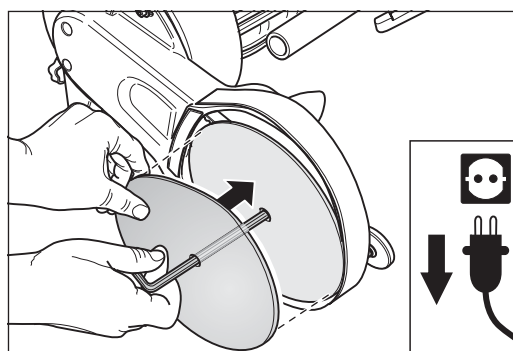

Fig. 48 To center the sanding disc, insert the Allen key into the hole of the sanding disc and then into the hexagon socket of the sandpaper tensioning screw.
- 5 Set the Velcro sanding disc in place by inserting the Allen key in the hole of the sanding disc first and then into the hexagon socket of the sandpaper tensioning screw (fig. 48). Then move the sanding disc up to the sanding disc wheel so that it rests precisely in centered position on the sanding disc wheel.